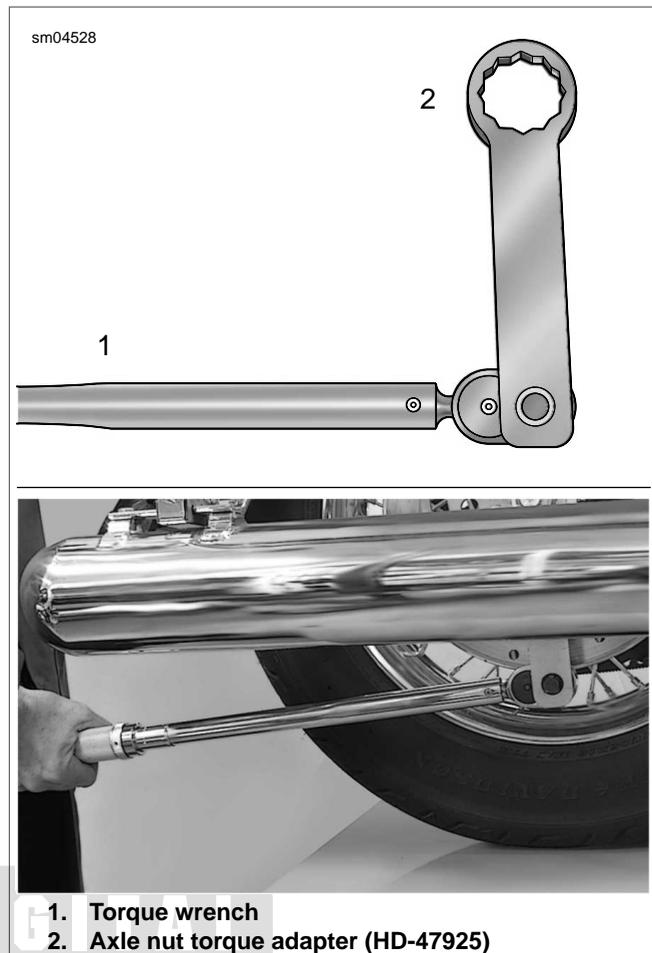

Figure 2-6. Install Tool Perpendicular to Torque Wrench
- b. Install torque adapter perpendicular to breaker bar. See upper frame of Figure 2-6.
- a. Install torque adapter perpendicular to torque wrench. See upper frame of Figure 2-6.
- b. Insert tool up between rear wheel and muffler to capture cone nut. For best clearance with muffler, be sure torque adapter is on the outboard side. See lower frame of Figure 2-6.